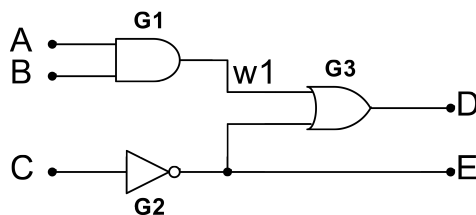

Figure 3: Simple Modeled Circuit
- 3.4. A simple program modeling a circuit (Figure 3) at the gate level is described below as Listing 1. The same program is then modeled again in Listing 2, using dataflow.